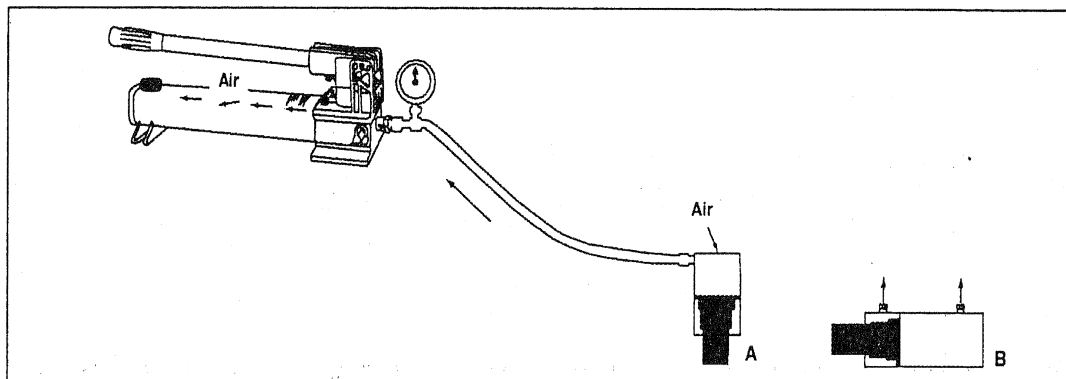

Figure 9
Removing air from the hydraulic system will help the cylinder to advance and retract smoothly (see figure 9).
3. Position cylinder with the plunger end down (up if using pull cylinder). See Figure 9 below.
3. Put cylinder in horizontal position with ports up. See Figure 9.